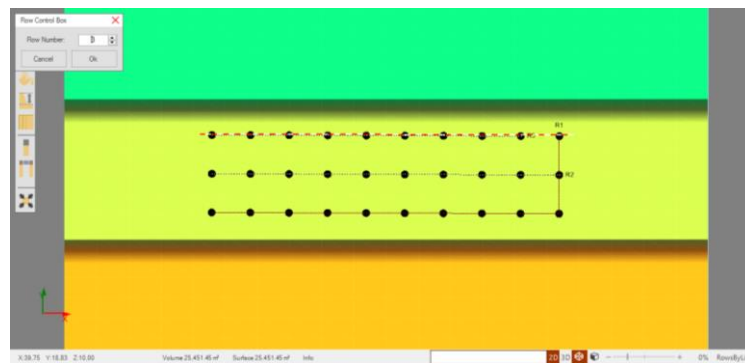

Fig. 188 - Line Editor: By Line
- By line: The user must define the row number in the **Row Control Box** and draw a line over a set of holes to assign a row ID (Fig. 188)